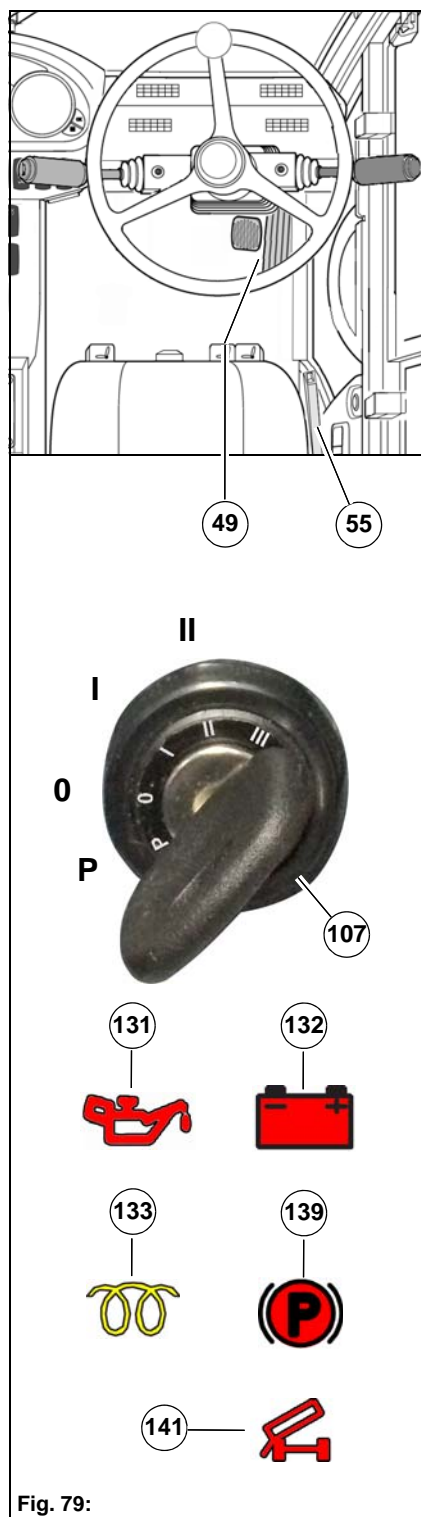

Fig. 79:
- The warning light **Fig. 79-139** lights up when parking brake **Fig. 79-** is applied.**55**